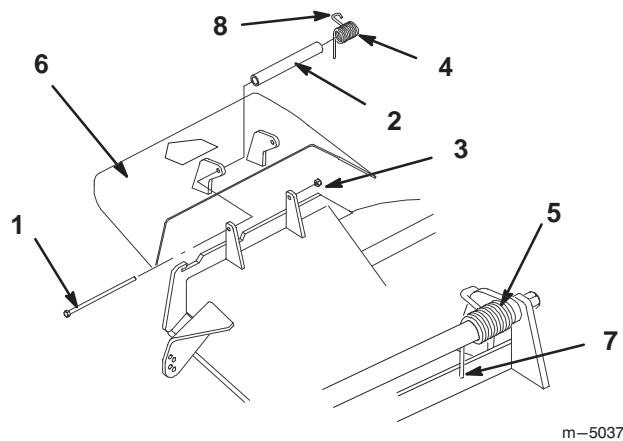

Figure 60
1. Remove the locknut, bolt, spring and spacer holding the deflector to the pivot brackets (Fig. 60). Remove damaged or worn grass deflector.
Note: Make sure the straight end of spring is installed behind deck edge before installing the bolt as shown in figure 60.
3. Install bolt and nut. Place hook end of spring around grass deflector (Fig. 60).